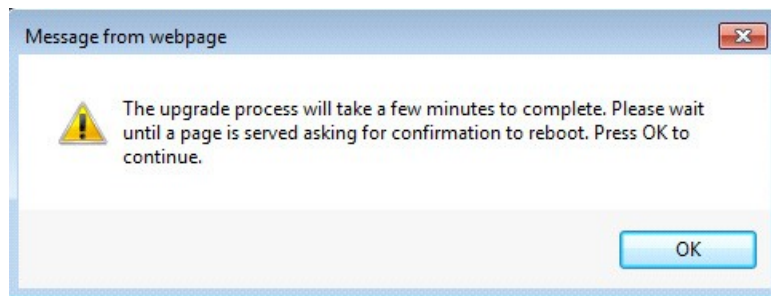

Figure 27 Firmware Upgrade Warning
9. A Warning message appears (Figure 27). Click "OK".